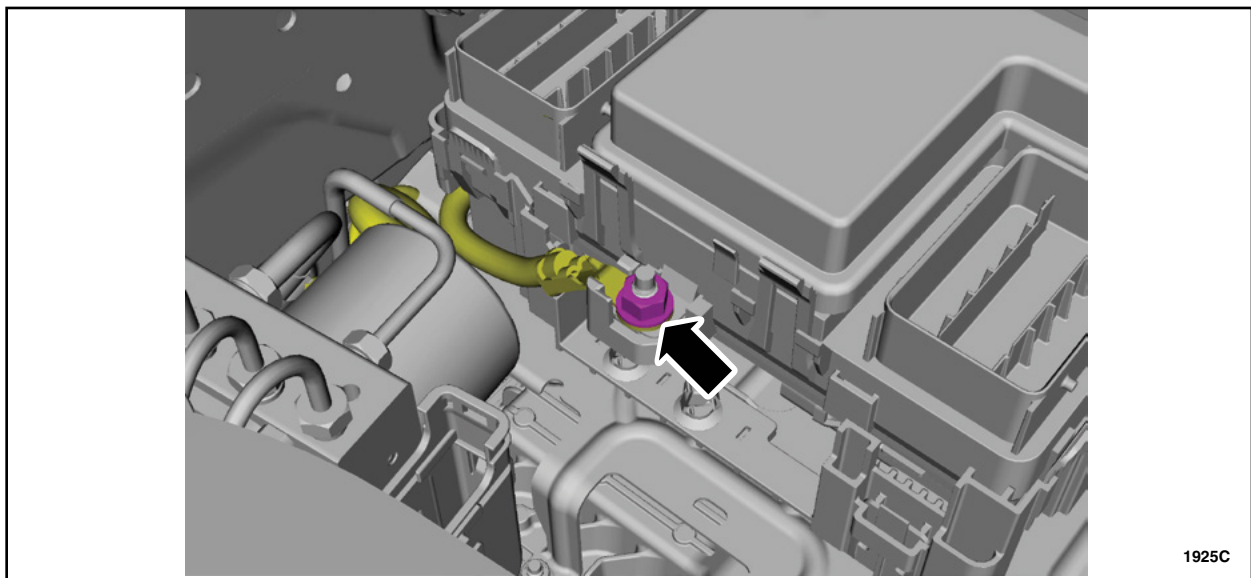

FIGURE 20
21. Install the cable and nut. See Figure 20.